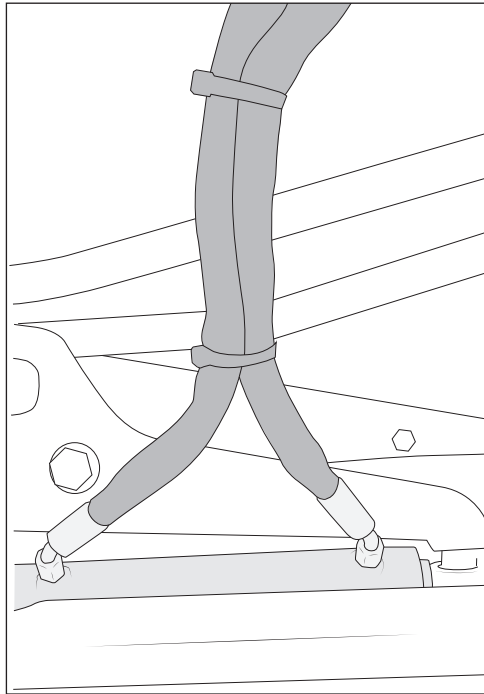

Figure 8
1. Install hoses onto the ram. Fittings should be angled toward each other (fig. 8).